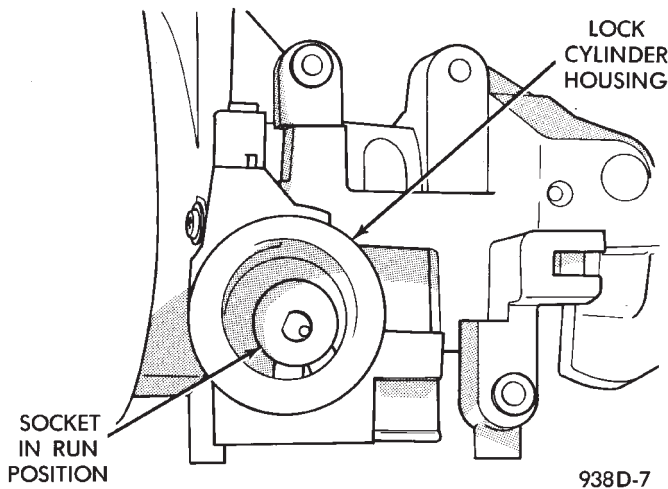

Fig. 8 Socket in Lock Cylinder Housing
(1) Install key in lock cylinder. Turn key to run position (retaining tab on lock cylinder can be depressed).
(2) The shaft at the end of the lock cylinder aligns with the socket in the end of the housing. To align the socket with the lock cylinder, ensure the socket is in the Run position (Fig. 8).